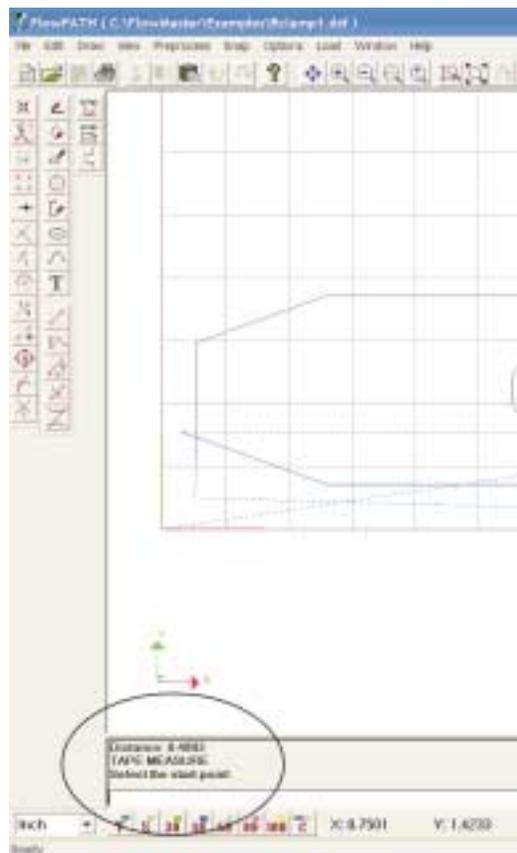

Figure 12. Tape measure distance location
5. The distance is shown in the instruction window (see Figure 12.)